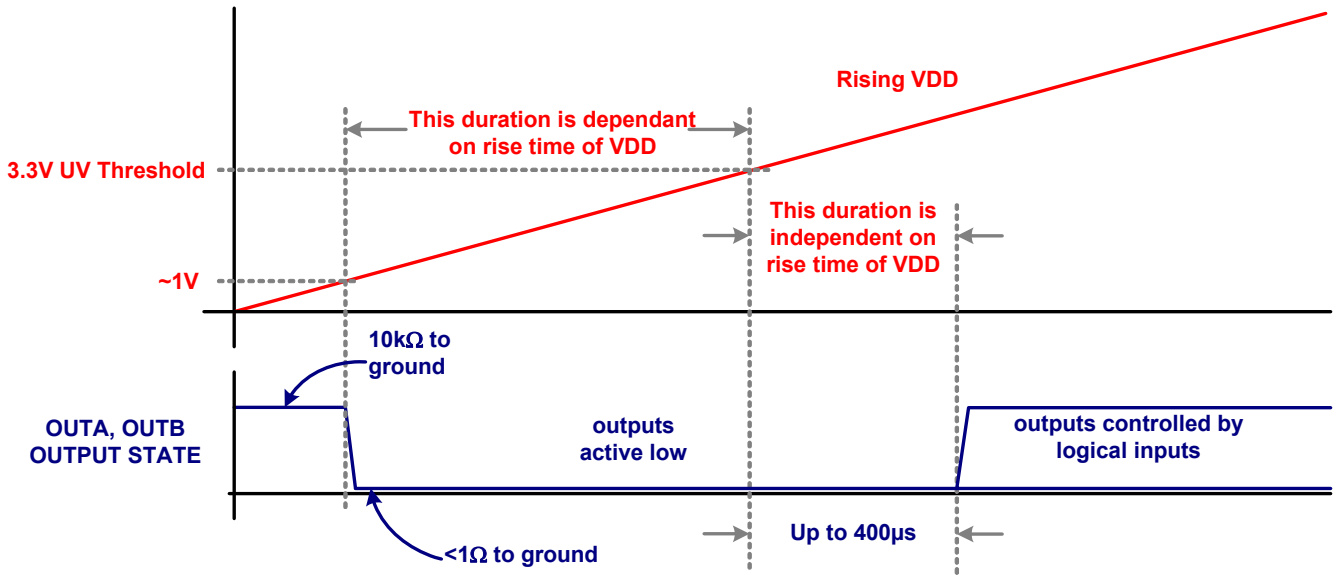

FIGURE 9. START-UP SEQUENCE
11. A 400 $\mu s$  delay further inhibits the release of the output state when the UV positive going threshold is crossed. See Figure 9.
The start-up sequence for is designed to prevent unexpected glitches when  $V_{DD}$  is being turned on or turned off. When  $V_{DD} < \sim 1V$ , an internal 10k $\Omega$  resistor connected between the output and ground, help to keep the gate voltage close to ground. When  $\sim 1V < V_{DD} < UV$ , both outputs are driven low while ignoring the logic inputs. This low state has the same current sinking capacity as during normal operation. This insures that the driven FETs are held off even if there is a switching voltage on the drains that can inject charge into the gates via the Miller capacitance. When  $V_{DD} > UVLO$ , and after a 400 $\mu s$  delay, the outputs now respond to the logic inputs. See Figure 9 for complete details.